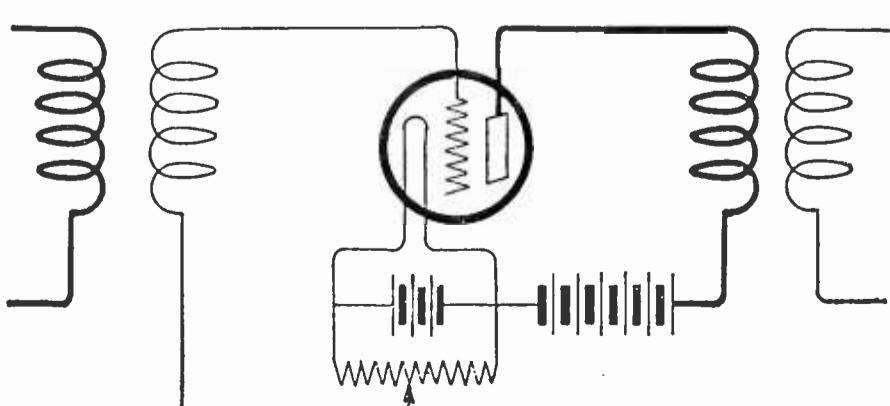

FIG. 31
**R**EISTANCE coupling cannot be used at very high frequencies, for the low condensive reactances of the capacities which are inherent in the tubes themselves offer easier paths for the high-frequency alternating currents than the high plate circuit resistances, and hence the currents will not travel the proper paths and the amplification is spoiled. And if reactance coupling or transformer coupling be used, another difficulty arises. Under "Regeneration," we saw that when a circuit possessing a natural frequency is attached to the grid of a tube, oscillations will occur if there is enough inductance in the plate circuit. In a transformer-coupled amplifier the secondary winding, connected to the unavoidable capacity between grid and filament, constitutes a circuit of definite natural frequency, while the primary winding of the transformer feeding the next tube will often supply the necessary amount of inductance in the plate circuit. The amplifier then oscillates. Some device has to be employed to stop this oscillation. A method commonly used is called "potentiometer stabilization" and is shown in Fig. 31. By moving the sliding contact over to the positive end of the potentiometer, the grid of the tube is made positive and hence receives electrons. The energy abstracted from the oscillation circuit in pulling electrons to the grid may be enough to kill the oscillations. This is a very undesirable method because the deliberately introduced losses cut down the amplification.